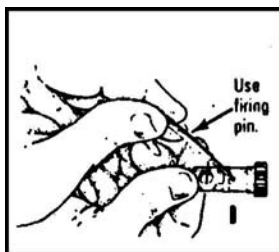

Figure 071-311-2025-17. Removing the extractor pin
- p. Lift out the extractor and spring (figure 071-311-2025-18), taking care so that the spring does not separate from the extractor.